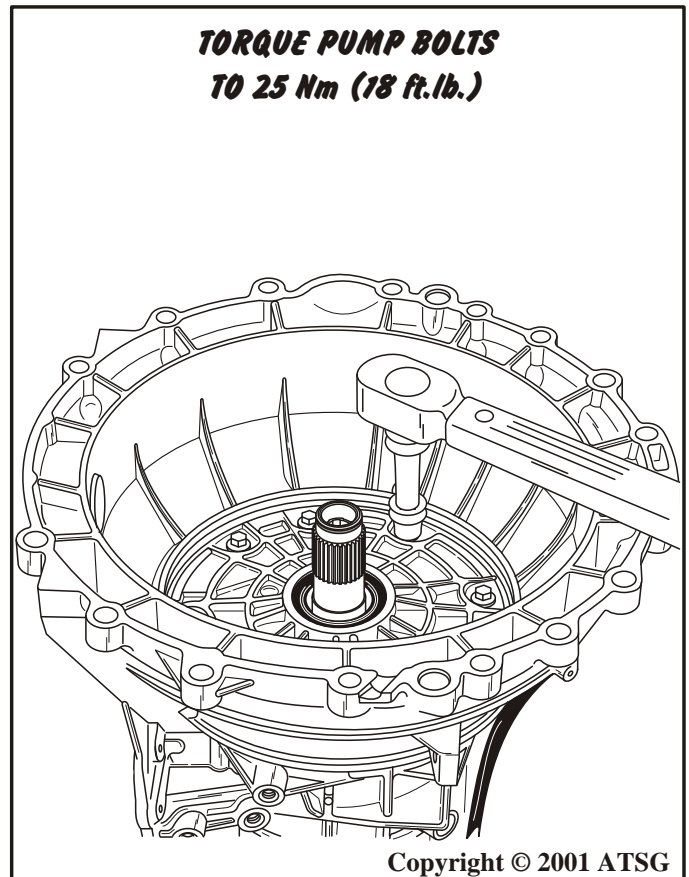

Figure 169
60. Install the eight oil pump assembly retaining bolts, and torque to 25Nm (18 ft.lb.), as shown in Figure 169.